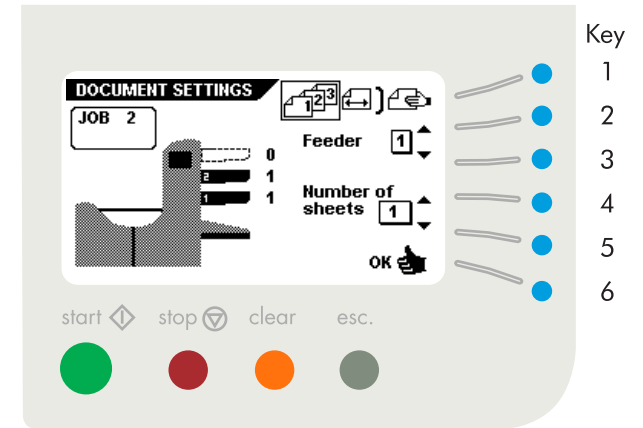

Fig. 39
- go to the envelope with closed flap screen (key 1).
- confirm the settings by pressing “OK” (key 6) which will get you back to the “job settings” menu.
When the “document settings” menu is selected and key 3 is pressed in the “job settings” menu, the display shows the screen as shown in fig. 39.
When number of sheets is selected the following choices are available (see fig. 39):